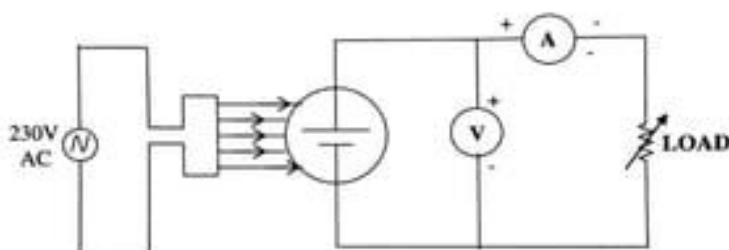

Fig. 1 Circuit Diagram
2. Connect the circuit as shown by dotted lines (Fig. 1) through patch chords.